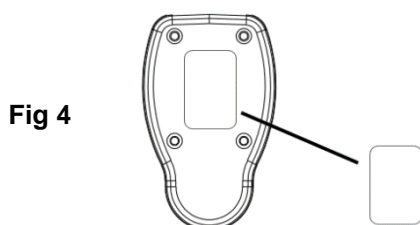

Fig 4
3. Pull out all AC wires from top of fixture for wall and ceiling mounting. (Fig 4)